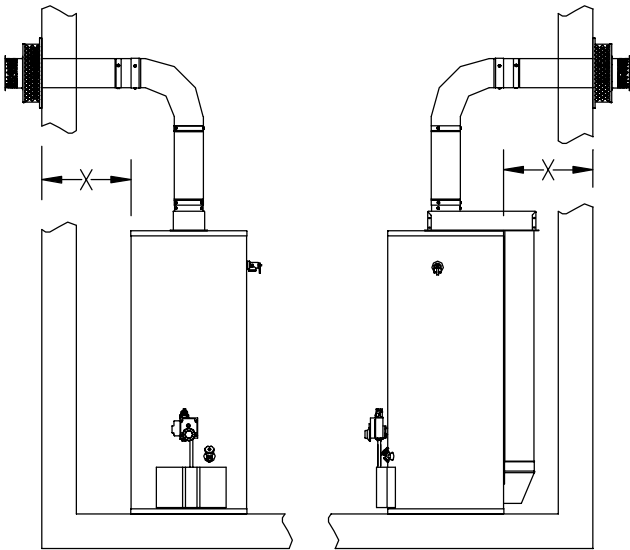

Figure 2
2. Measure the horizontal length “X” required in your installation. Reference the length in Table B under the column heading “Horizontal Length “X” (See Fig. 2).”